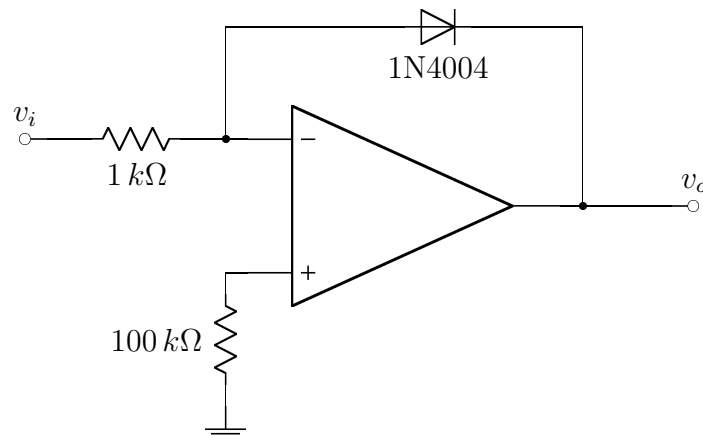

Figure 30: Logarithmic amplifier
The circuit shown in Fig. 30 can be used to make a crude logarithmic amplifier. Note that this is a *non-linear* circuit (a sine wave in will not generate a sine wave out), so our analysis is restricted to the time-domain.
1. Build the circuit shown in Fig. 30.